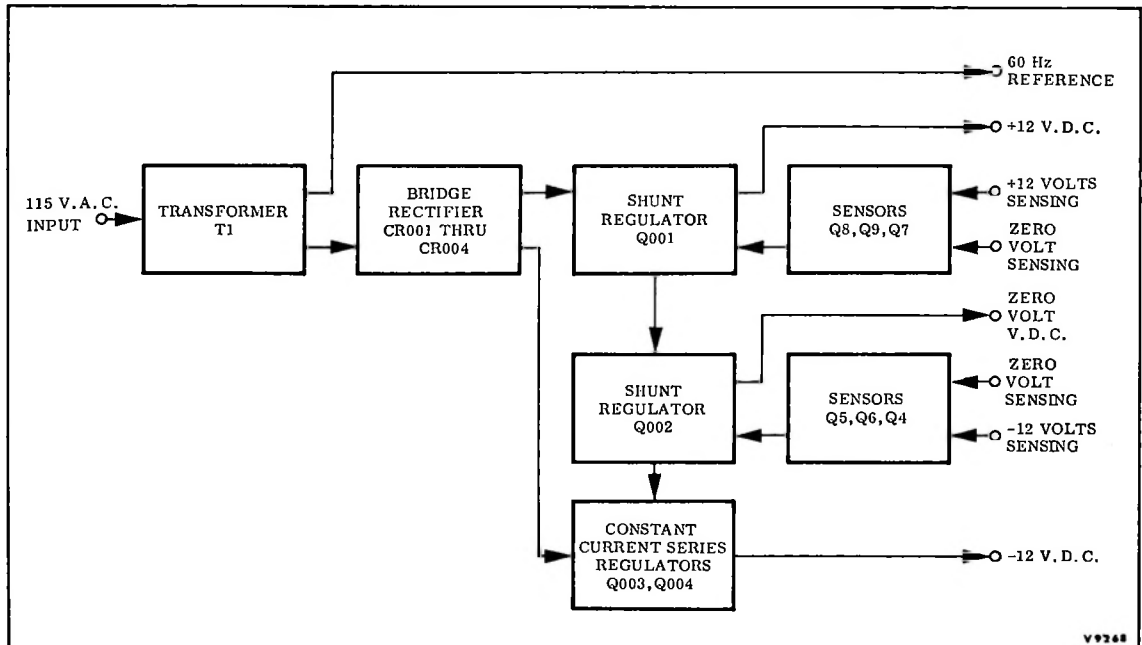

Figure 4-8. ± 12 -Volt Power Supply Functional Block Diagram
4-56 The 12-volt power supply provides +12 and -12 regulated voltage output to the solid-state components of the Video Signal System. The power supply consists of: (1) power transformer T1; (2) bridge rectifier CR001 through CR004; (3) shunt regulator Q001; (4) shunt regulator Q002; (5) constant current series regulators Q003/Q004; (6) sensors Q8, Q9, Q7, Q5, Q6, Q4; and associated components. Figure 4-8 depicts a functional block diagram of the power supply.